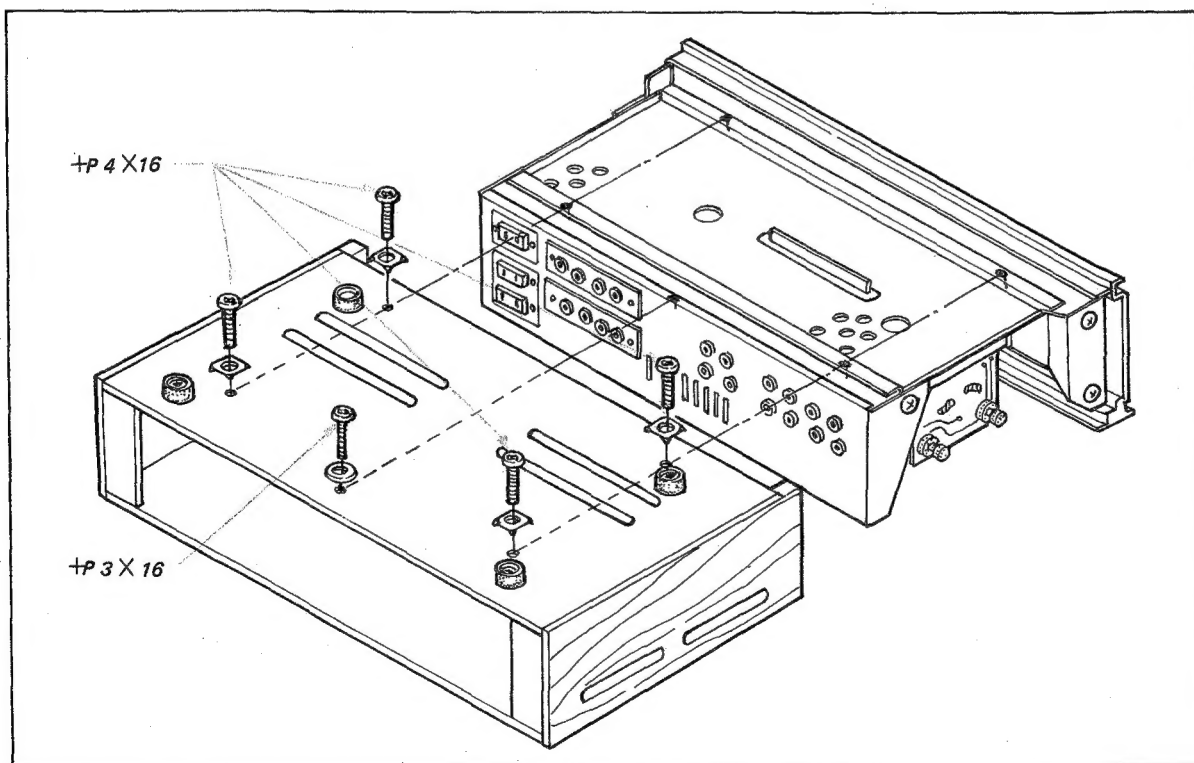

Fig. 2-2 Wooden case removal
1. Remove the four corner screws (+P 4 × 16) and one screw (+P 3 × 16) securing the wooden case to the chassis as shown in Fig.2-2.